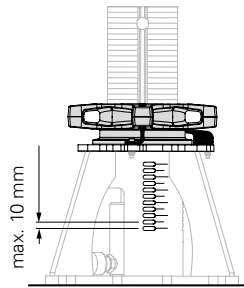

Fig. A5.09
- Cylinder stroke is limited to max. 10 mm. This corresponds to the spacing of the slots in the lowering jack. (Fig. A5.09)